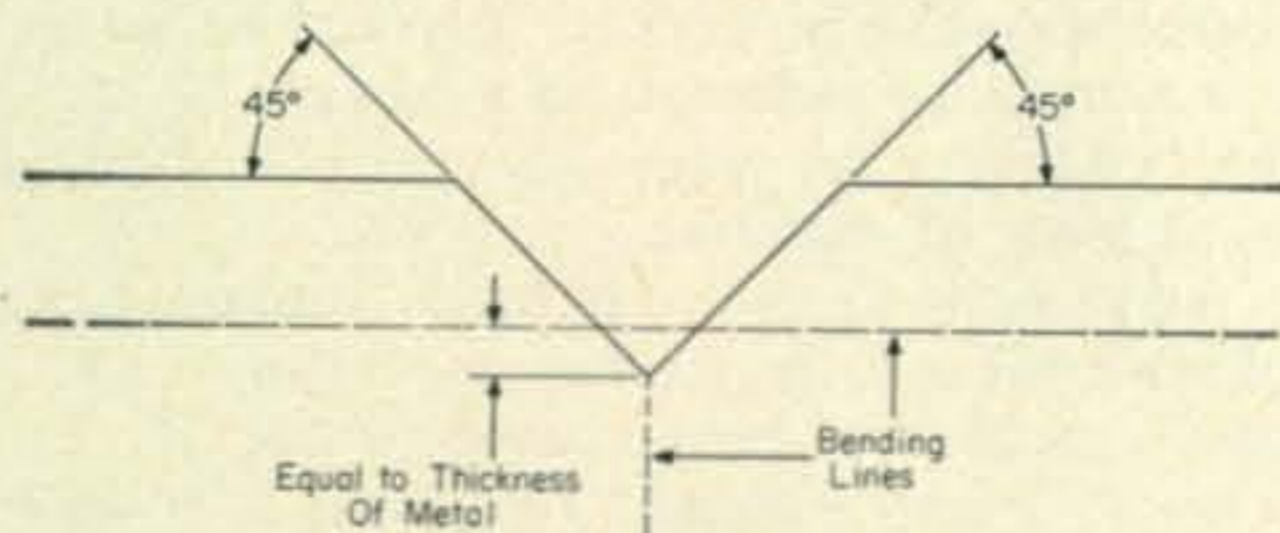
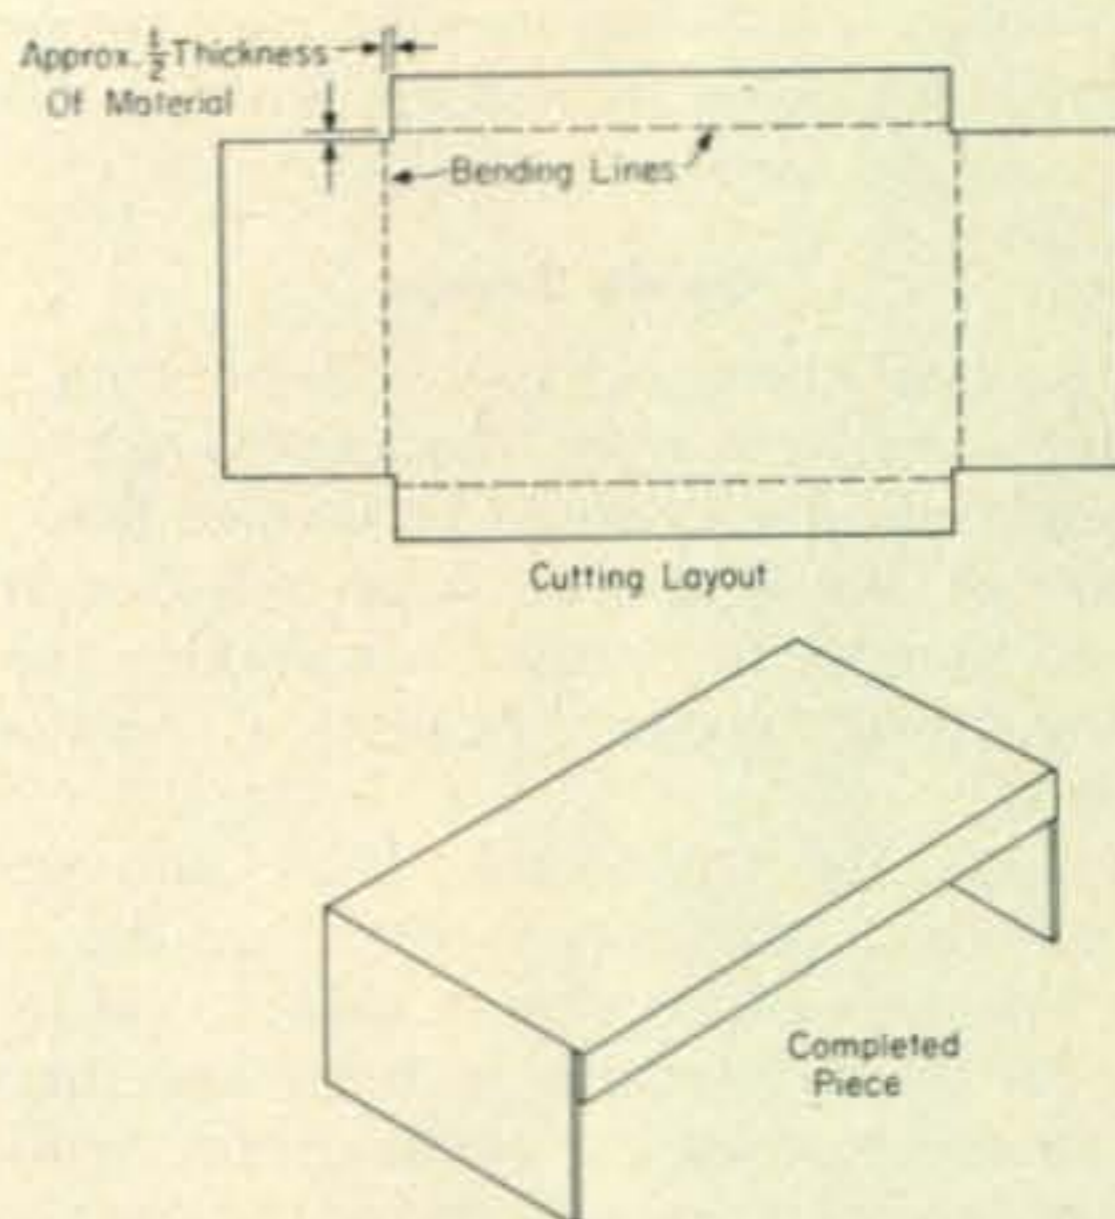

Fig. 7—Cutting details for mitre-cornered sides.
Fig. 8—Cutting details for square-cornered sides.
When pieces are bent with mitred corners, as shown in fig. 5A, allowance must be made when the piece is initially laid out and should be cut as shown in fig. 7. Square corners should be prepared as shown in fig. 8.—W2AEF
Fig. 7—(A) Combination square used for determining the height dimension for variable capacitor shaft. This dimension may then be transferred to panel as shown at (B).
When a panel is to be mounted on the front of a chassis, the holes for it and for the controls on the front apron of the chassis should not be laid out or made until the panel is fitted on. Panel holes which are needed above the chassis level for control shafts of chassis-mounted components, like variable capacitors, are also best left for marking until after the panel has been fitted as shown in fig. 7. More on this will be found in "Drilling."